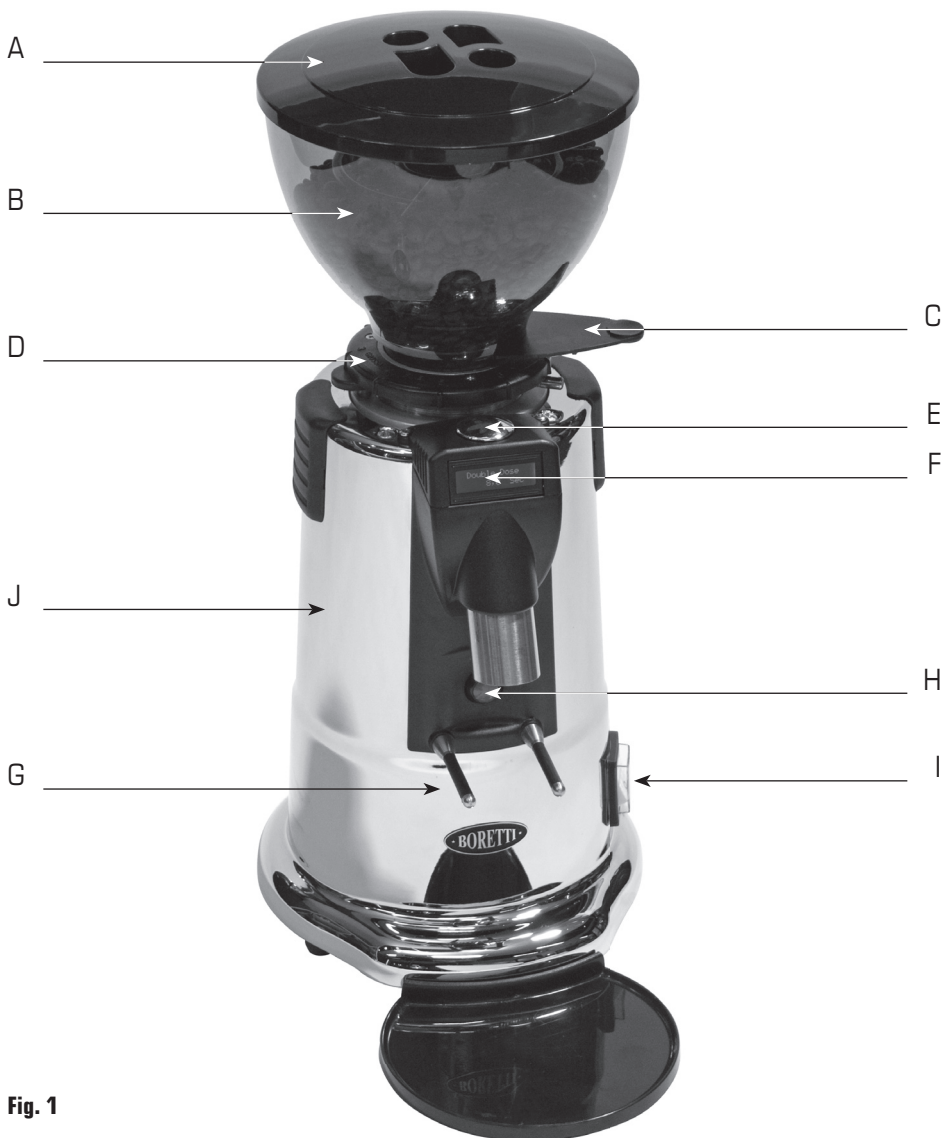

Fig. 1
**Make sure the ON/OFF switch (“I” fig. 1) is in the OFF position before plugging the grinder in.**
Keep the portafilter on the support ("G" fig. 1) until the grinder has finished. On the display you can see how long the machine still has to run.
Clean the body ("J" fig. 1) with a damp cloth **(never immerse in water)**.